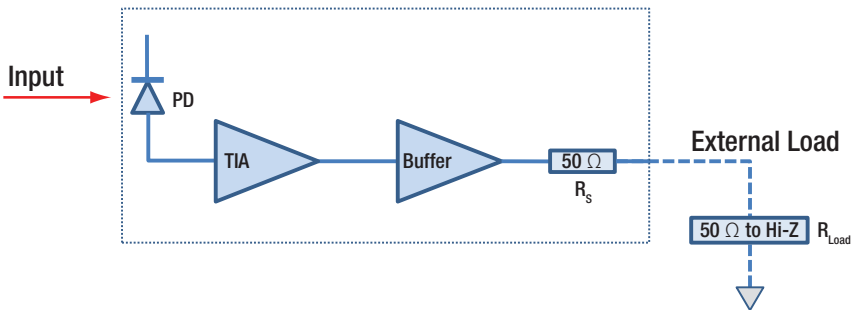

Figure 2. Block Diagram of the PDA015A Amplified Si Photodetector
Thorlabs' PDA015A is ideal for measuring both modulated/pulsed and CW light sources. As is shown in Figure 2, the PDA015A includes a reverse-biased PIN photodiode (PD) mated to a fixed gain transimpedance amplifier (TIA) followed by a buffer amplifier, and packaged in a rugged housing. The photodiode generates a current in response to the optical input which is then converted to a voltage and amplified by the TIA. The Buffer Amplifier adds yet another level of gain. Note that the output is passed through a 50  $\Omega$  series resistor before reaching the output connector. The user can apply either a 50  $\Omega$  or high-impedance external load depending on the situation.